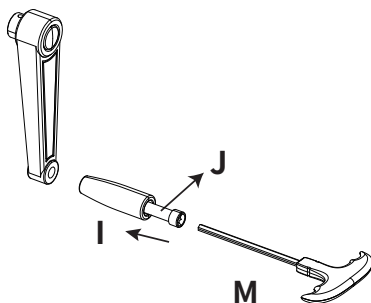

Fig.1
- 1.Insert J into I as shown in Fig. 1, then use M to tighten and secure it from the right side of the crank handle.